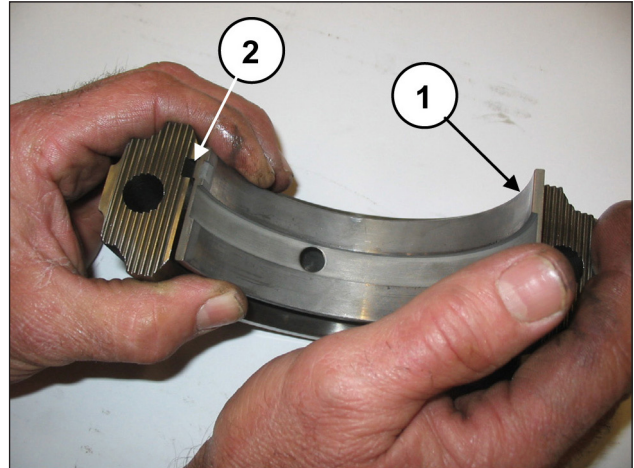
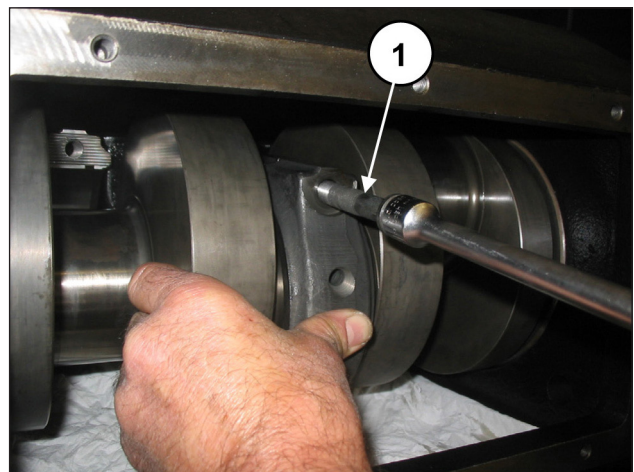

Fig. 58
Fig. 59
Apply the lower half-bearings to the caps (pos. ①, Fig. 58) ensuring that the half-bearing reference notches are positioned in their housing on the cap (pos. ②, Fig. 58). Fasten the caps to the half supports by means of M12x1.25x87 screws (pos. ①, Fig. 59).